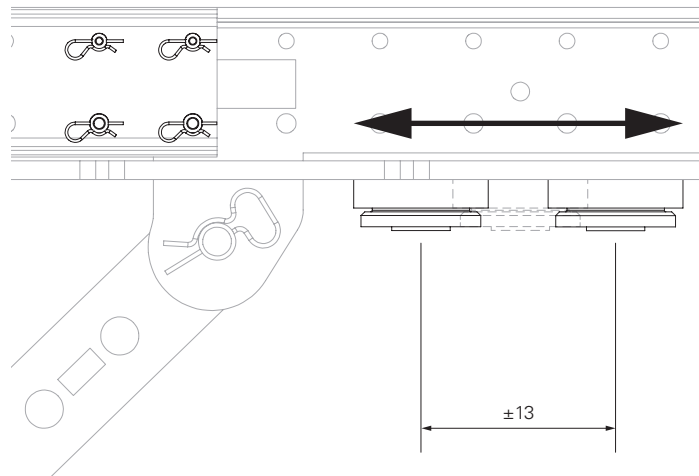

Fig. H1.02
- The calotte (**100.3**) is used for fine adjustment of the extension length by  $\pm 13$  cm (Fig. H1.02)